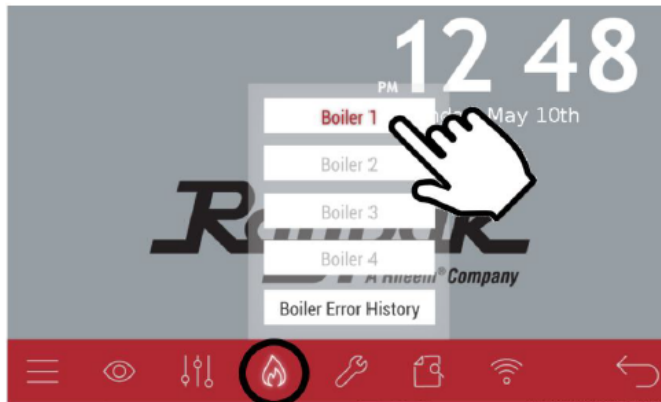

Figure 55. Boiler 1 Option
2. On the touchscreen, go to Boiler>Boiler 1 per **Figure 55**.